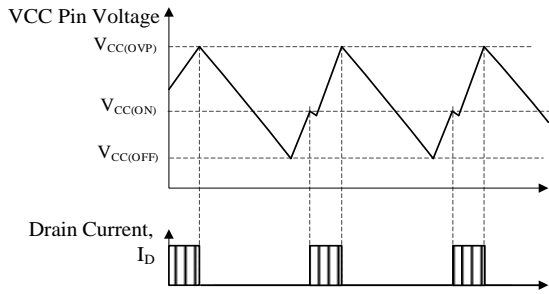

Figure 10-19 OVP Operational Waveforms
During OVP operation, the Bias Assist Function is disabled, the intermittent operation by UVLO is repeated (refer to Section 10.11). When the fault condition is removed, the IC returns to normal operation automatically (refer to Figure 10-19). When VCC pin voltage is provided by using auxiliary winding of transformer, the overvoltage conditions such as output voltage detection circuit open can be detected because the VCC pin voltage is proportional to output voltage. The approximate value of output voltage $V_{OUT(OVP)}$ in OVP condition is calculated by using Equation (7).